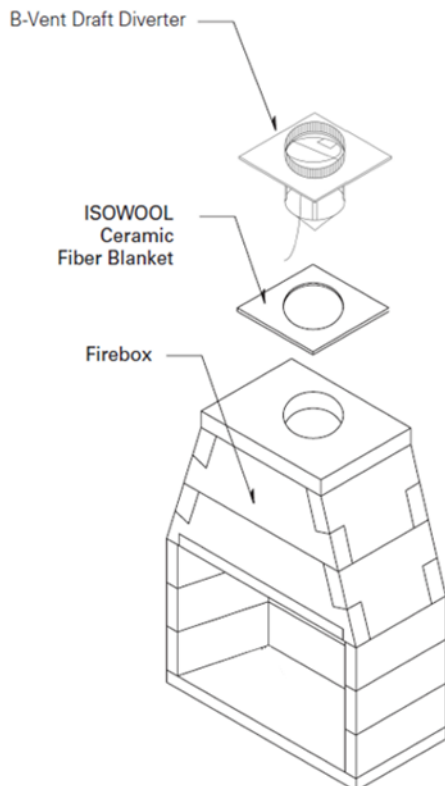

FIGURE 23
3. Secure the Anchor Plate with Down-Draft Diverter with four (4) masonry anchors (Figure 23). The damper should swing freely. When the chain is pulled down, the damper should close (horizontal position). When the chain is released (no weight on the chain), the damper should swing open (vertical position).